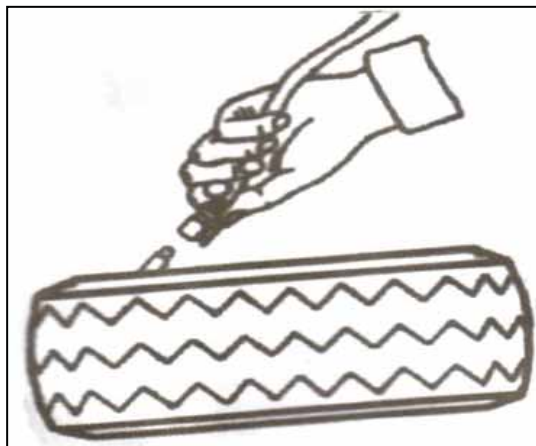

**Fig. 21**
4.2.2 Spread the lubrication liquid or soap liquid around the lip of tire. Tilt the tire against the rim, keeping the front end upwards. Press down on the hexagonal shaft to move the demount tool arm to contact with the rim and lock. The left lip above the tail of the demount tool and the right lip will be positioned under the front end of the demount tool (Fig. 21). Then rotate the turntable clockwise to guide the bottom lip into the tire detaching slot.